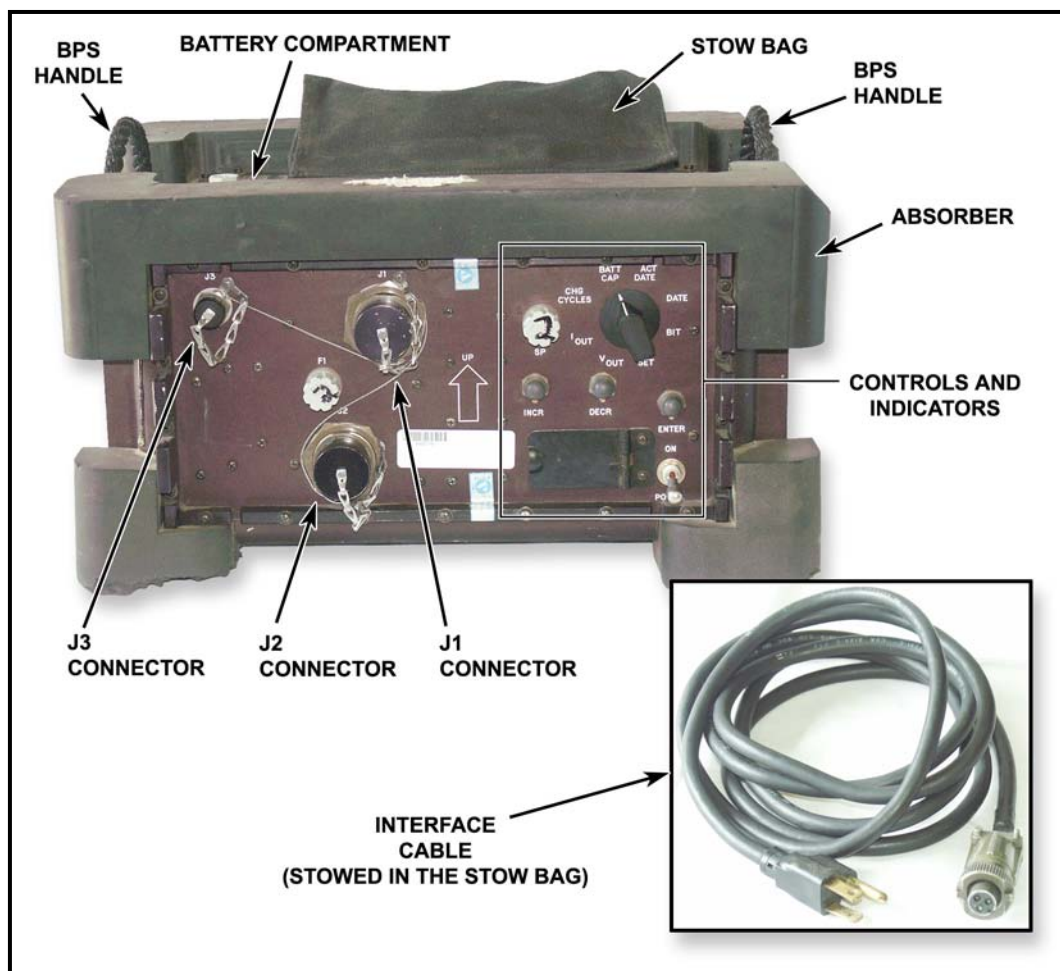

Figure 1-6. Battery power source.
(1) The BPS uses four rechargeable, silver zinc batteries connected in series to provide power for the ITAS during dismount operations, and power conditioning for the vehicle when the ITAS is mounted on the M1121 HMMWV (Figure 1-6).